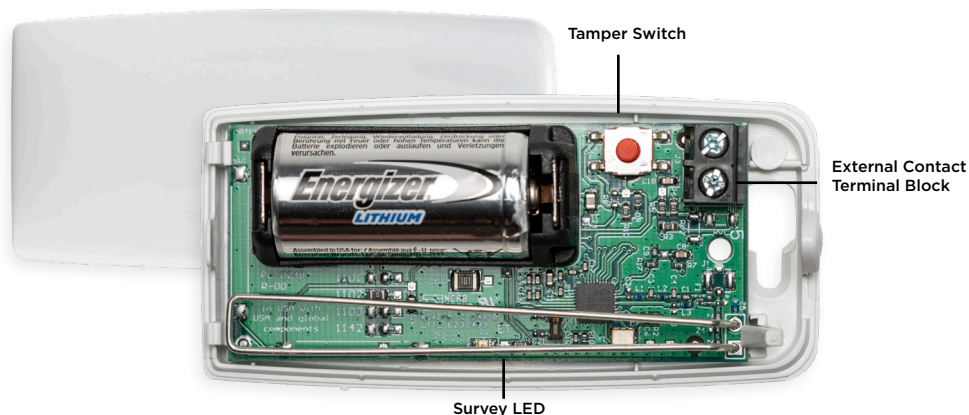

Figure 1: 1102 Layout
2. Observing polarity, place the battery in the holder and press it into place. Refer to Figure 1 during installation.